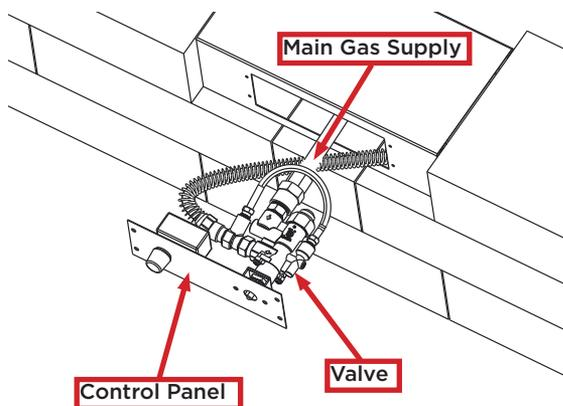

Figure C.7
- Attach burner valve to control panel with provided screws. See figure C.7